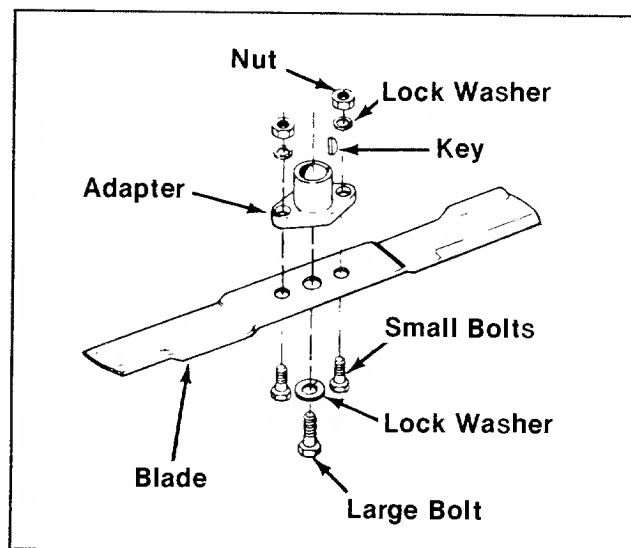

FIGURE 32.
3. Remove the two smaller bolts, lock washers and nuts holding the blade to the adapter. (See figure 32.)